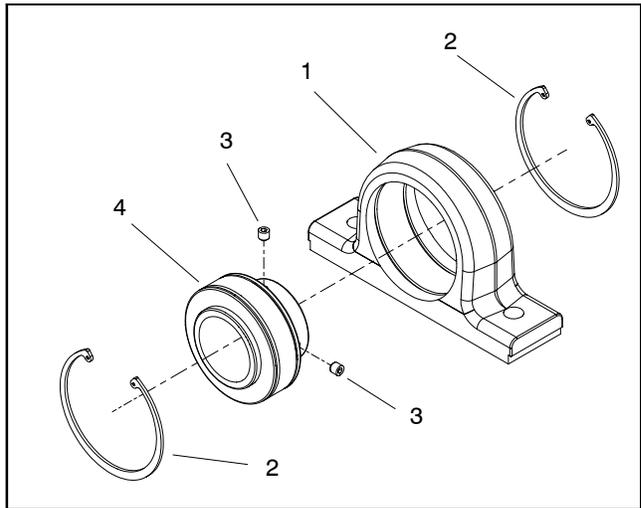

Figure 15
I. If necessary, remove retaining rings and bearing from bearing housing (Fig. 15). Note orientation of bearing flange for assembly purposes. Discard bearing if removed from housing.
1. If bearing was removed from bearing housing, install new bearing into housing (Fig. 15):